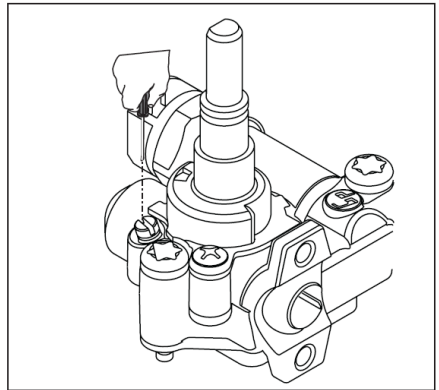

Figure 5
5. Using a flathead screwdriver readjust the screw next to the central axis of the valve (Figure 5).